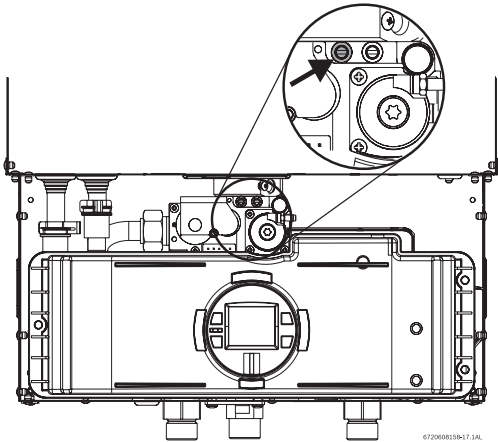

Fig. 34 Gas pressure test port (left tapping)
- ▶ Remove front cover and locate inlet gas pressure measuring point (see Fig. 34).